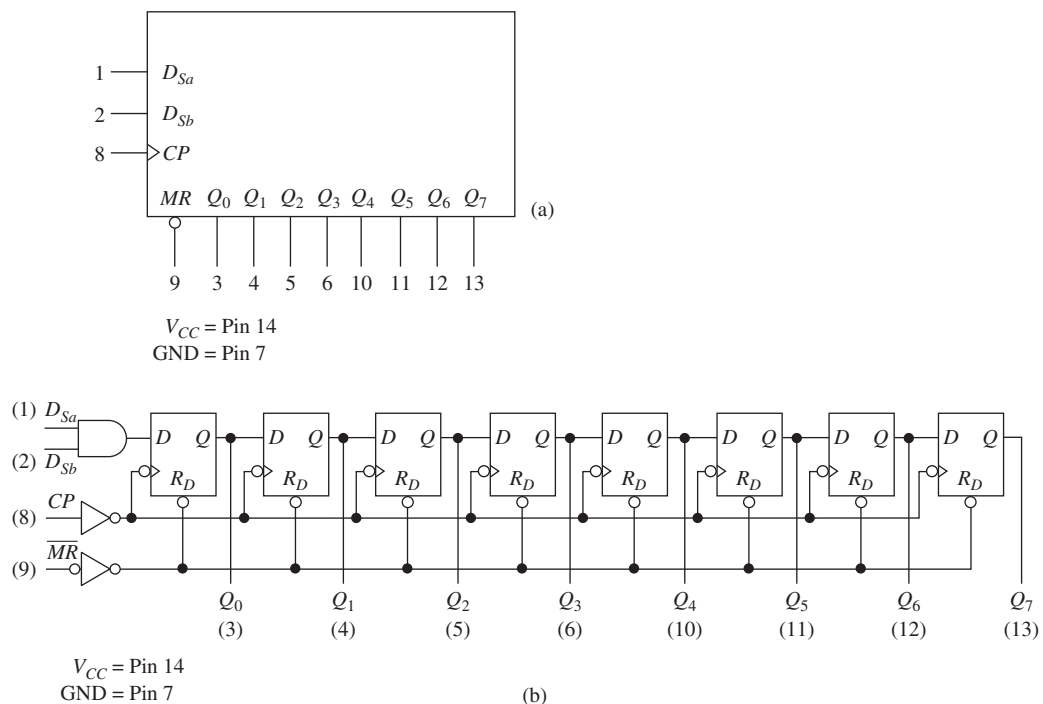
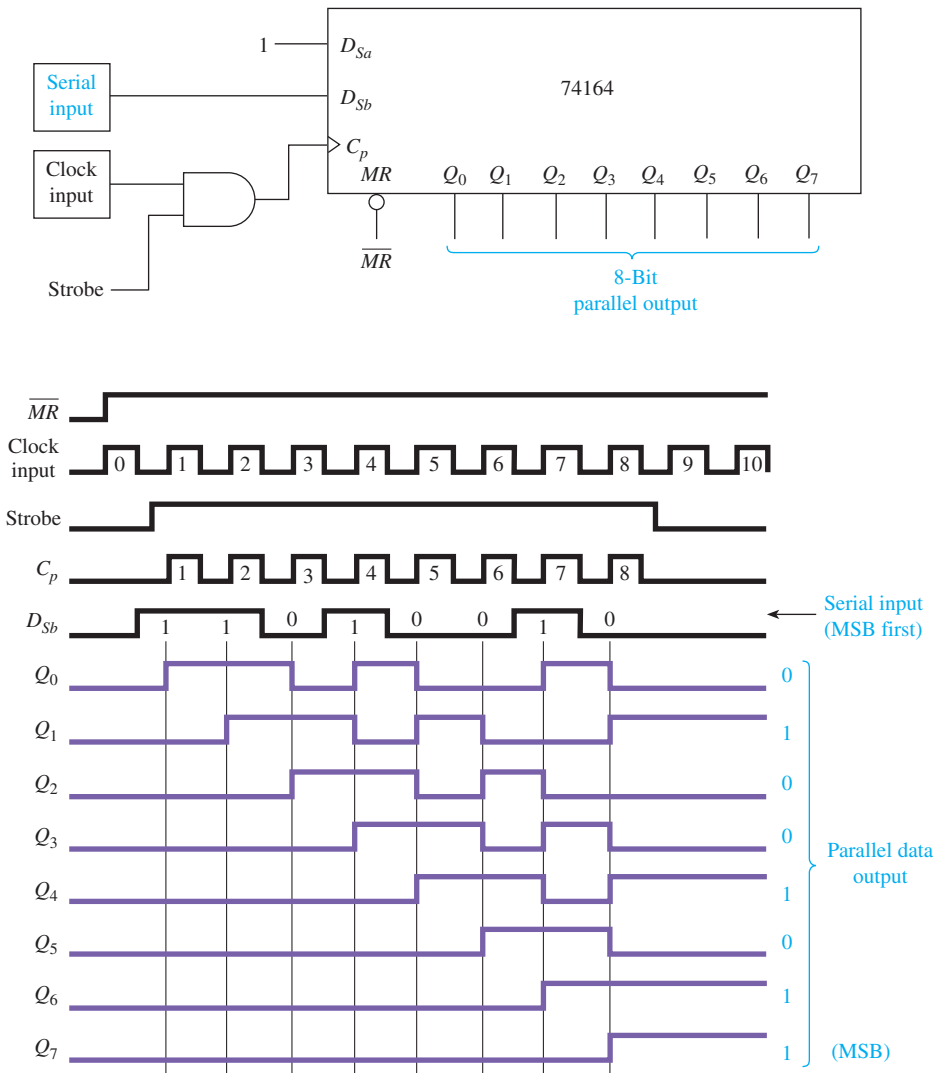

Figure 13-10 The 74164 shift register IC: (a) logic symbol; (b) logic diagram.
Figure 13-11 Serial-to-parallel conversion using the 74164 shift register IC.
By looking at the logic symbol and logic diagram for the 74164 (see Figure 13-10), we can see that it saves us the task of wiring together eight D flip-flops. The 74164 has two serial input lines (D_{Sa} and D_{Sb}), synchronously read in by a positive edge-triggered clock (CP). The logic diagram [Figure 13-11(b)] shows both D_S inputs feeding into an AND gate. Therefore, either input can be used as an active-HIGH enable for data entry through the other input. Each positive edge clock pulse will shift the data bits one position to the right. Therefore, the first data bit entered (either LSB or MSB) will end up in the far right D flip-flop (Q_7) after eight clock pulses. The \overline{MR} is an active-LOW Master Reset that resets all eight flip-flops when pulsed LOW.
Solution: The serial-to-parallel conversion circuit and waveforms are shown in Figure 13-11. First, the register is cleared by a LOW on \overline{MR} , making $Q_0-Q_7 = 0$. The Strobe line is required to make sure that we get